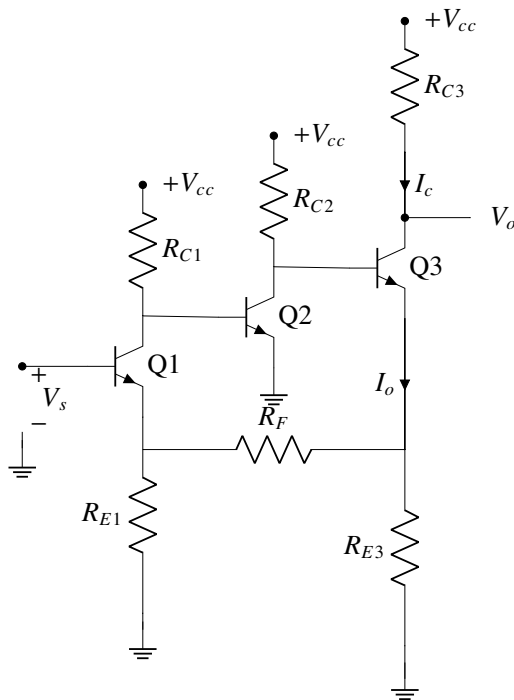
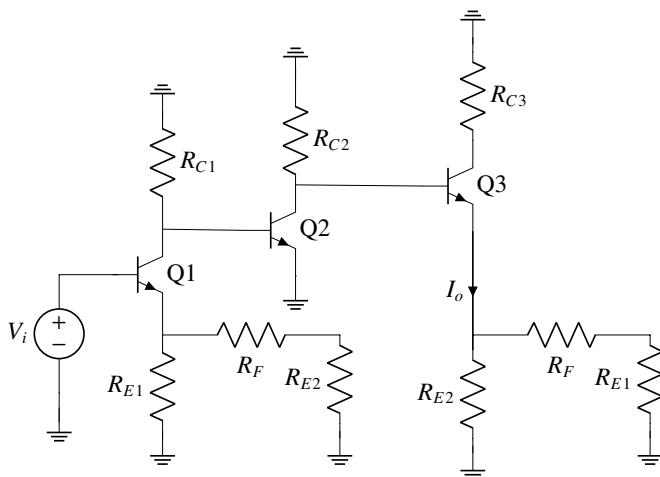

Fig. 1.0.0: circuit1
Fig. 1.0.3: circuit3
1.0.1. Part of the circuit of the MC1553 Amplifier is shown in circuit1 in fig.1.0.0 Assume the loop gain is large, find an approximate expression and value for the closed loop gain  $T = \frac{I_o}{V_s}$  use values from Table 1.0.1
**Solution:** employing loading rules in fig.1.0.0, we obtain circuit3 given in fig.1.0.3 to find  $G = \frac{I_0}{V_i}$  we determine